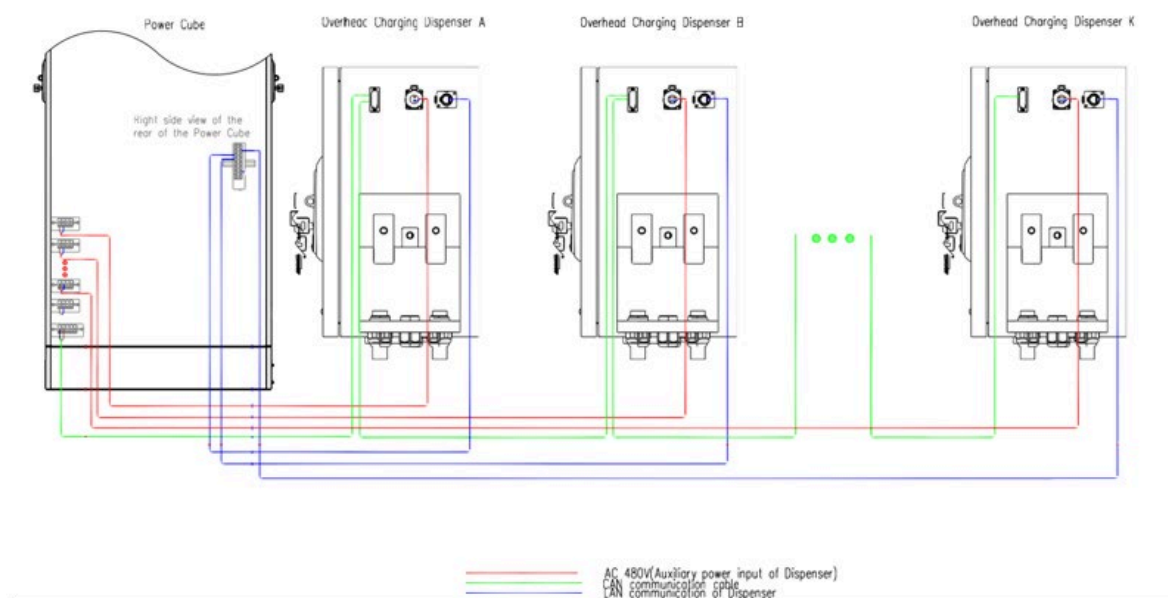

Figure 5.18 Power Cube auxiliary power supply and signal cable connection diagram
- The Signal and Auxiliary power connection between Power Cabinet and the Micro Dispenser are shown in Figure 5.18 and Cable selection according to table 5-2.